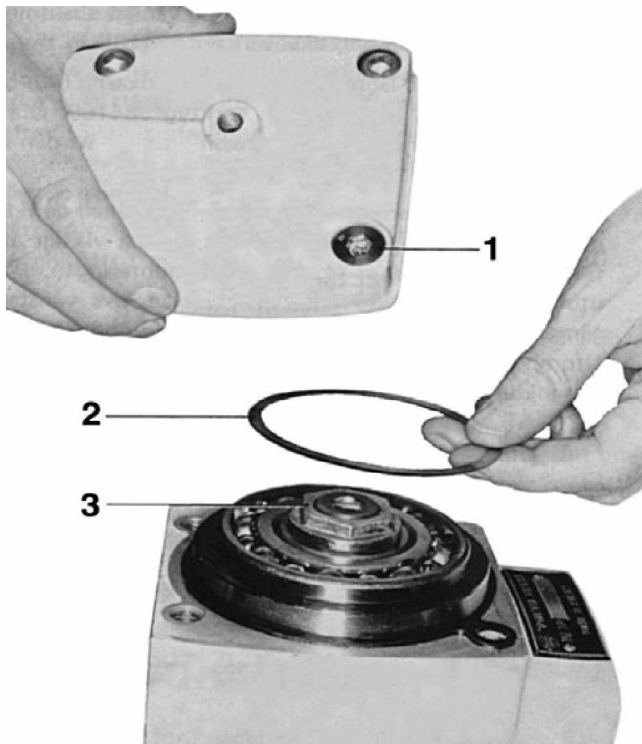

Fig. 5.
3. Unscrew the internal hexagon screws for the clamp ring (36) and pull out the universal joint with the double bearing box. Note: Take care of the shims.
4. Unscrew the four bolts on the gear housing cover (4) and take off the cover. Note: The front right bolt is hollow with an O-ring sealing 1, Fig. 5. Take care of the shims 2.
5. Slacken the nut 3, Fig. 5 (52, Fig. 57) at the top of the countershaft. Note: It has a left-hand thread. Use tool 884264 as a counterhold on the splines when the nut is released. Lift out the upper gear with the bearing box and engaging sleeve. Remove the lower gear